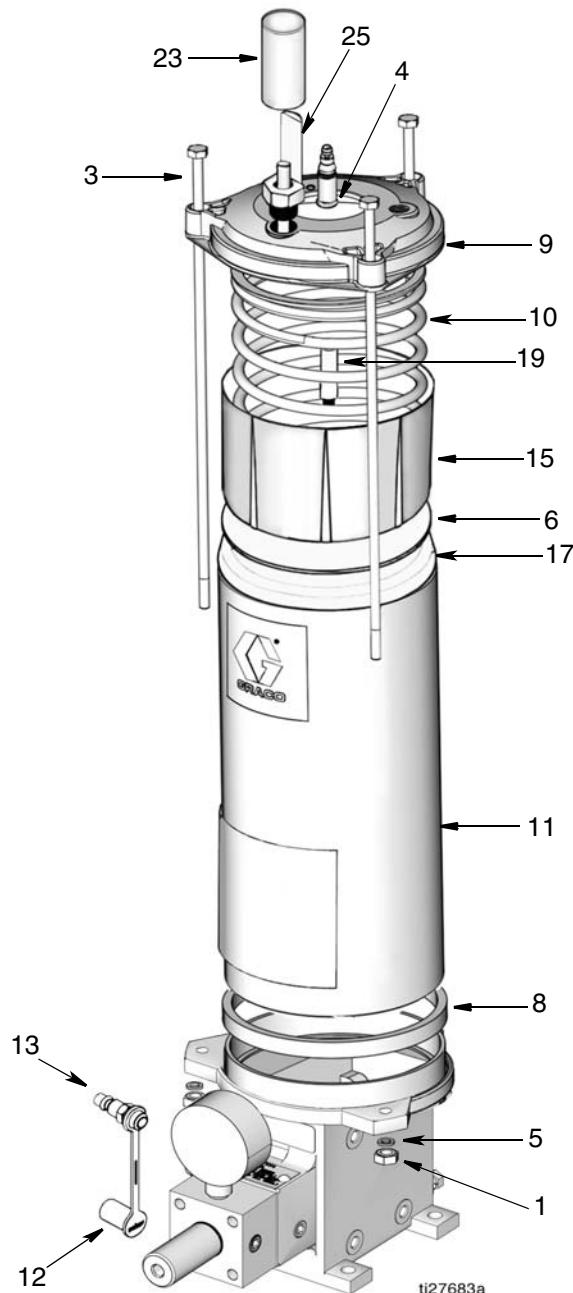

FIG. 11:
Refer to FIG. 11 for reference numbers used in the following instructions.
4. Remove the fill stud (13), if necessary (FIG. 11).
5. Remove hex nuts (1) and lock washers (5) from the tie rods (3) (FIG. 11).
6. Remove tie rods (3) from reservoir cap (9) (FIG. 11).
7. Lift the reservoir (11) from the pump, keeping the reservoir cap (9) in position on top of the tube (FIG. 11).
8. Slide the reservoir (11) away from the reservoir cap (9) until it is free from the follower cups (15 and 17) (FIG. 11).
9. Remove the gasket (8) from the pump (FIG. 11).
Lubricate the follower cups (15 and 17) (FIG. 11) and the inner diameter of the reservoir tube (11) before reassembling the pump assembly with the same lubricant used in the system.
1. Slide the reservoir (11) over the follower cups (15 and 17) upwards until it contacts the reservoir cap (9), being careful not to distort the follower cup lips.
2. Install a new gasket (8) on the pump.
3. Place the reservoir (11) on the gasket (8) and rotate the reservoir cap (9) until the holes in the cap line up with the holes in the pump.
4. Install the tie rods (3) through the holes in the reservoir cap (9) and pump.
5. Install lock washers (5) and hex nuts (1) onto the tie rods (3) and torque to 5 ft-lbs (6.78 N·m).
6. Install the fill stud (13) and dust cap (12) in the pump.